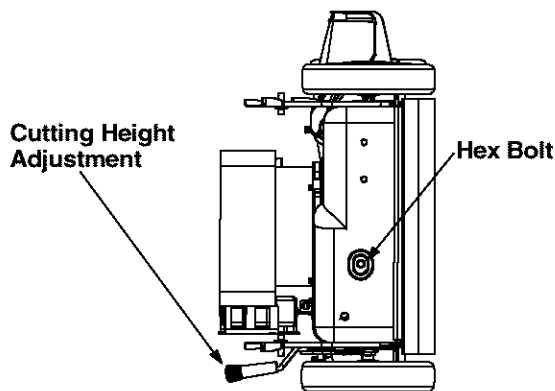

Figure 22
- Remove the hex bolt from the rear of unit holding the transmission to the mower housing. See Figure 22.